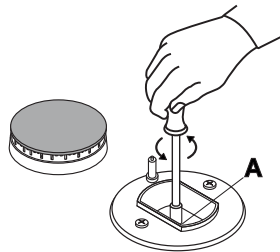

Fig.6
2. Unscrew the nozzles using a 7 mm socket spanner (fig.6), and replace them with nozzles for the new type of gas (see table 1 "Burner and nozzle characteristics").
B 30TC 138/CS BNV model hobs are equipped with two gas supply inlets (see fig. 6, details P1 and P2) and each one controls two burners; both inlets should therefore be connected to the gas supply network.